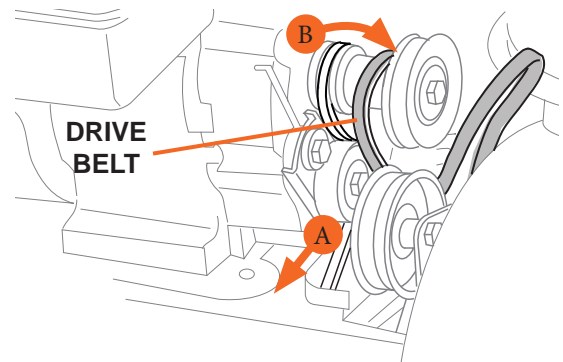

Figure 22
6. See Figure 22 and follow the steps below: